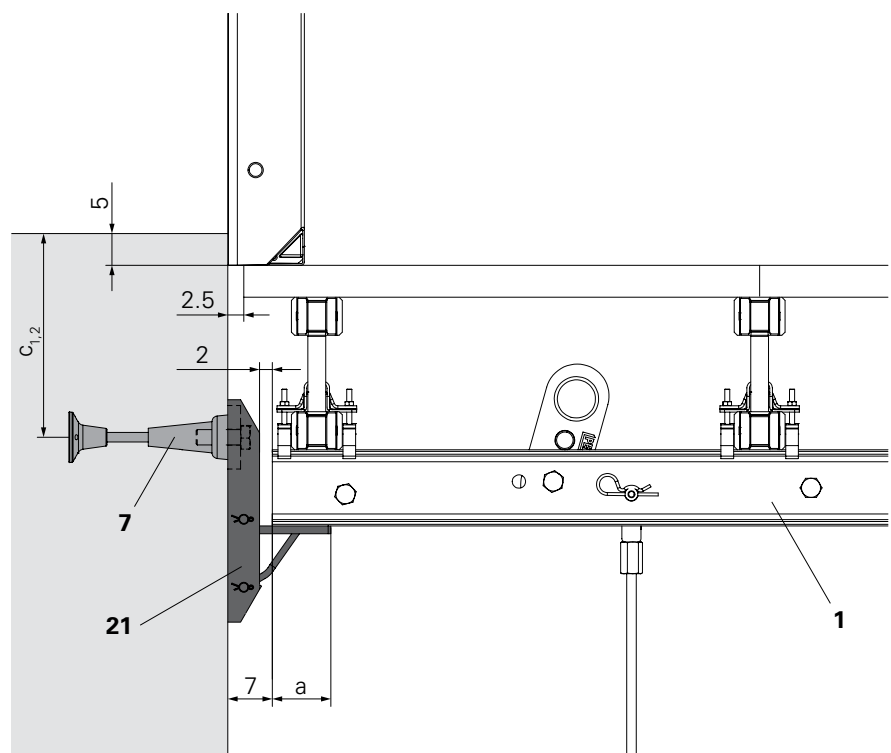

Fig. A1.04
- Pay attention to the minimum distances $c_{1,2}$ of the anchor used, see Section "A2 Anchoring". (Fig. A1.04)